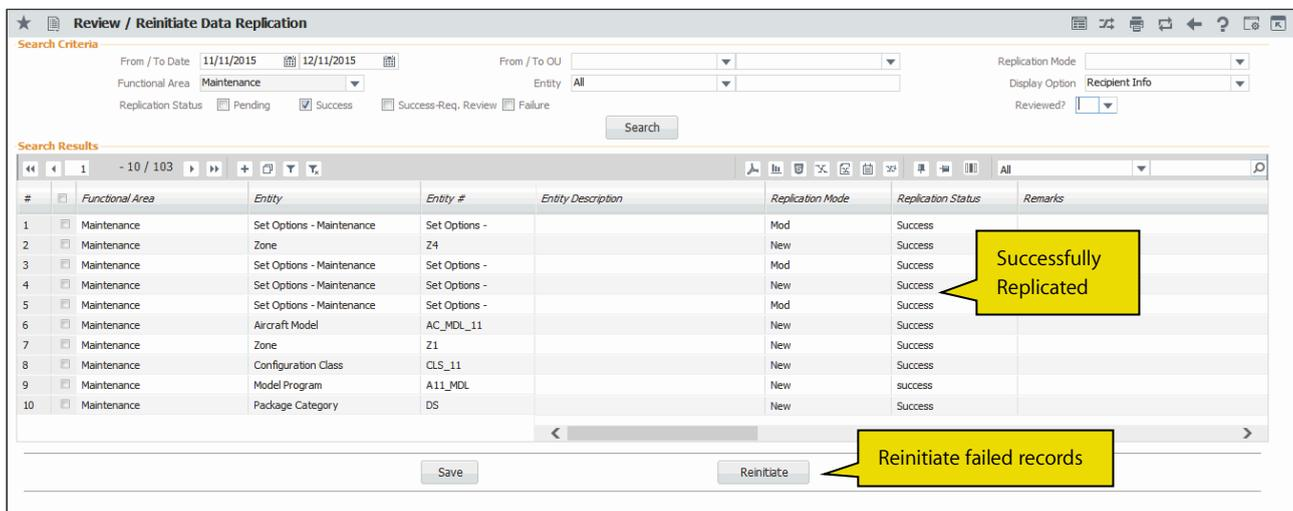

Figure 3.1 Reviewing / reinitiating data replication
1. Select the Review / Reinitiate Data Replication activity under the Data Replication Review business component. The **Review / Reinitiate Data Replication** page appears. *See Figure 3.1.*